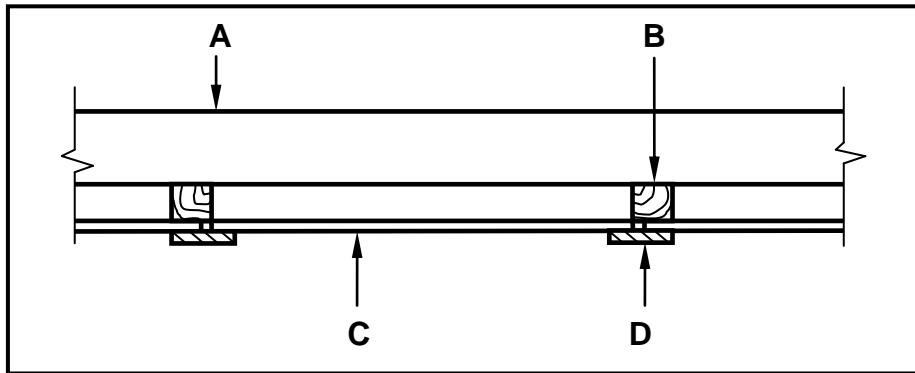

FIGURE 4.8
- 4.8 FIGURE 4.8 below shows a sectional view of a conventional trap door. Study the sketch and give ONE word/term for each letter (A to D) by choosing a word/term from the list below. Write only the word/term next to the letter (A–D) in the ANSWER BOOK, e.g. E – Rafter.